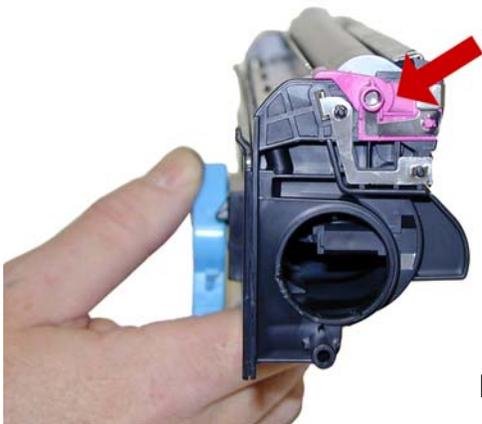

Figure 14
15) Install the pink bushing on the right side of the developer roller. The clear plastic band should be over the arm of the bushing. See **Figures 14 & 15**